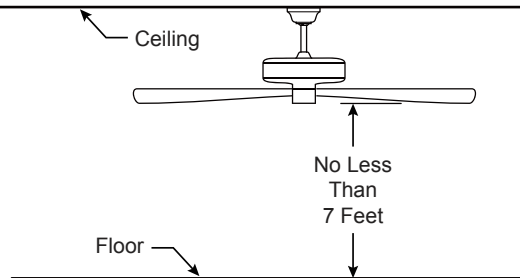

Figure 2
To avoid possible electrical shock, be sure electricity is turned off at the main fuse box before wiring. (Figure 2)
2. Securely attach and tighten the canopy screw cover over the shoulder screws in the hanger bracket utilizing the key slot twist-lock feature. (Figure 2)